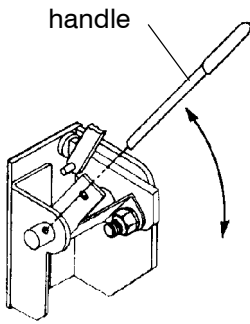

Figure 1-2.
*150 through 400 amp. E-design* See Figure 1-2.